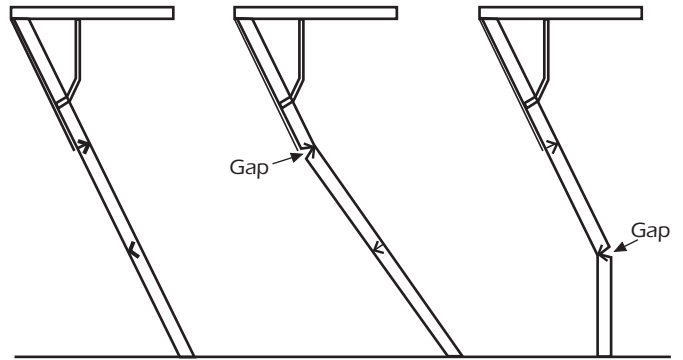

Fig. 9 - Correct    Fig. 10 - Too Long    Fig. 11 - Too Short
bottom and inspect the side rails to make certain there are no gaps between the hinged sections. All three sections should form a straight line. (See Figure 9 for correct stair alignment.)\*
**Step 12-** Check to make sure of proper length. Standing on second step of the bottom section, the stairs should fit flush with the floor and all joints should be tight with no gaps (Fig. 9). If the stairs are too long (Fig. 10), trim them again. If the stairs are too short (Fig. 11), do not use them. The bottom section will have to be replaced. Contact your vendor or The American Stairway Company.